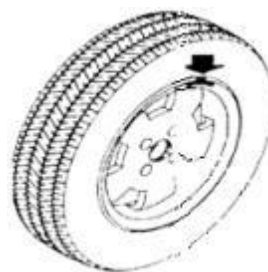

Figure 10-7
10.2.4 Slowly spin wheel, when outside counterweight position indicator light (figure 5-1(4)) all on, clip correspond counterweight on 12 o'clock position on outside of rim, ect figure 10-7;